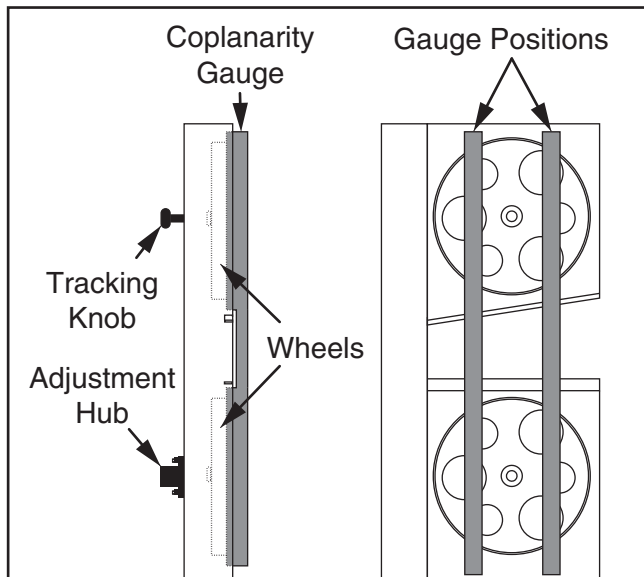

Figure 109. Illustration of using coplanarity gauge to check wheel alignment.
4. Place coplanarity gauge up against both wheels in positions shown in **Figure 109**. Make sure gauge fully extends across rims of both wheels.